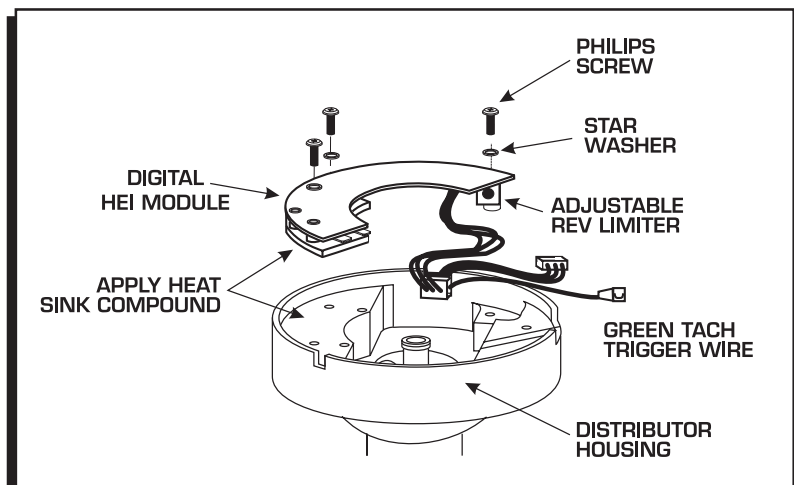

Figure 2 Installing the Module.
2. Apply a liberal coat of the Heat Sink Compound to the aluminum base of the Module and to the rubber insulator. Route the wiring harness out of the housing then locate the three screws and star washers and install the module (Figure 2).